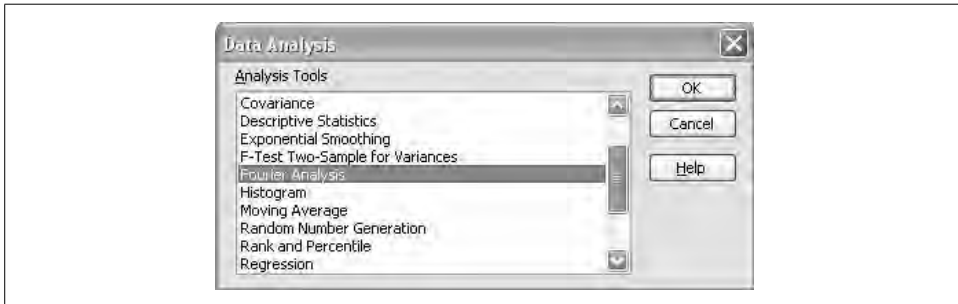

Figure 6-32. Fourier Analysis tool selection
The column DFT(Y) contains the discrete Fourier transform of the time series data. To generate these values you have to use the Fourier Analysis tool. Select Tools → Data Analysis... from the main menu bar to open the Data Analysis dialog box. Select Fourier Analysis from the list of available analysis options shown in Figure 6-32.